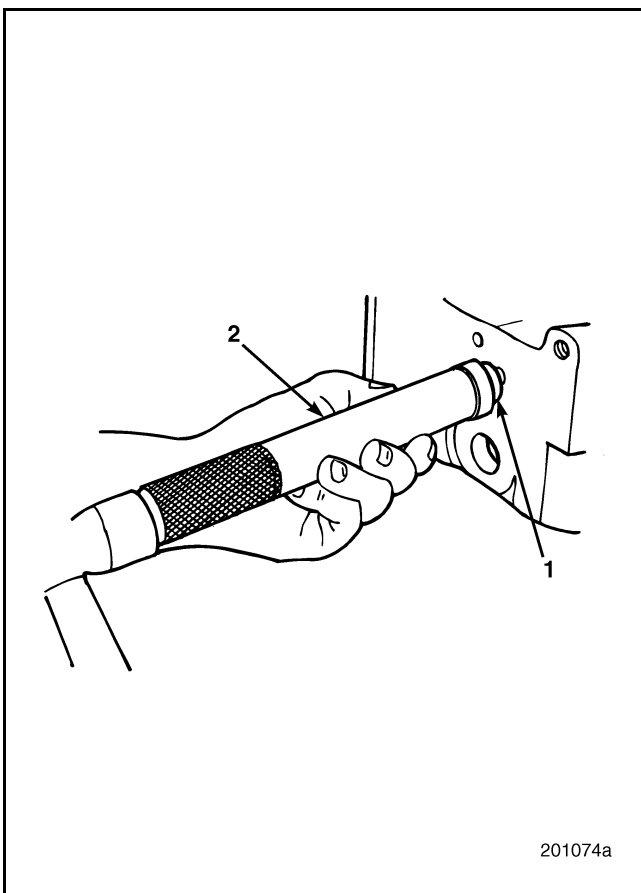

Figure 207 — Cylinder Head Cup Plug Installation
- Install cup plugs in the cylinder head, using the appropriate cylinder head core plug installer, J 34684 for 13/16-inch (20.64 mm) cup plugs, and J 34687 for 1-1/16 inch (26.99 mm) cup plugs. Refer to Figure 207.